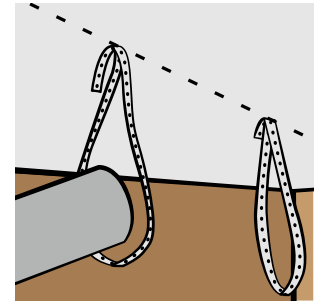
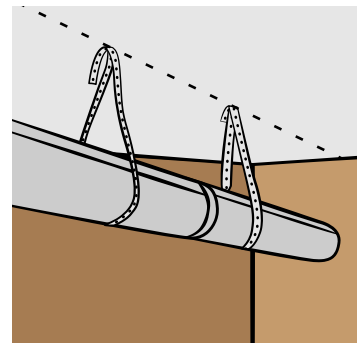

FIG. 10b
FIG. 10c
- Feed the ductwork through each loop, connecting components together as you go [FIG. 10b] [FIG. 10c].